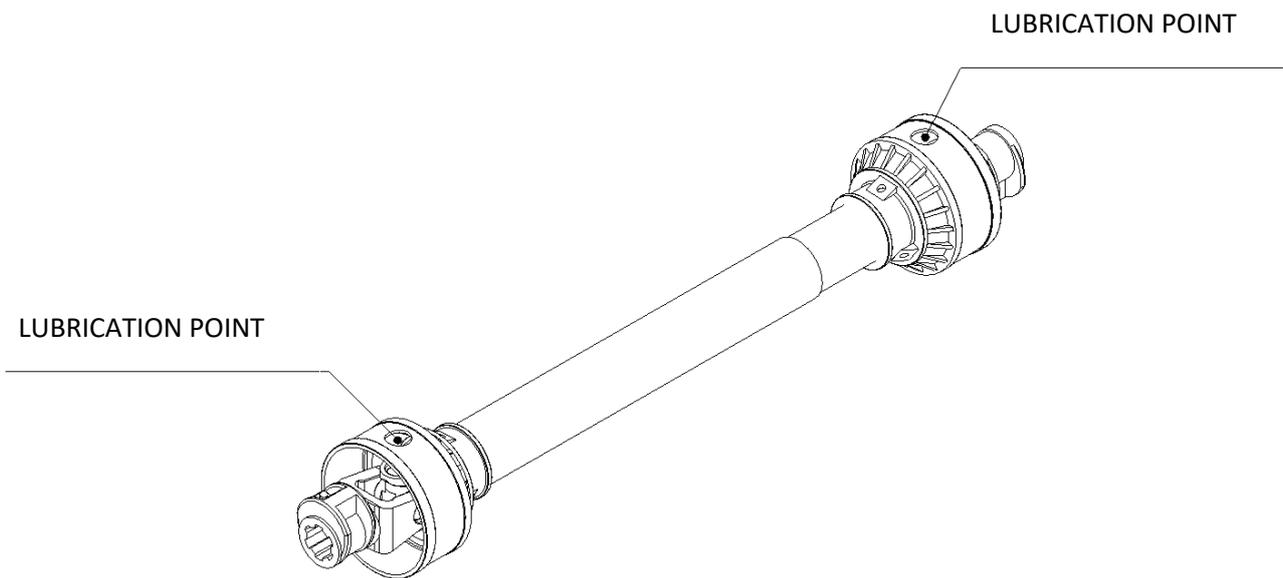

Figure 8.2 - Cardan shaft
- **Cardan shaft:** The Cardan shaft (Figure 8.2) is one of the components you should check every day you work with the machine and, in this particular case, lubricate properly at the same intervals.